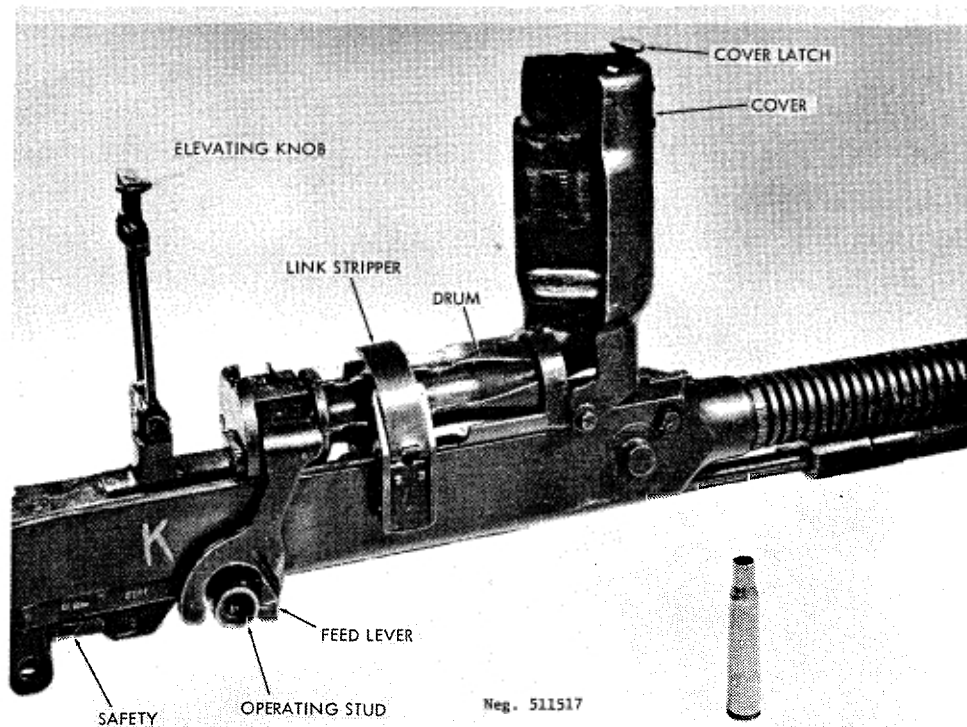

Figure 218. DShK-38 receiver details.
c. To load the DShK-38 rotary feeder, press the cover latch and open the cover (fig 218). Slip the link stripper into the first link, and place the first cartridge in the belt into the topmost compartment of the drum. Grasp the end of the belt with the right hand; with the left hand, press the belt against the drum; then sharply jerk the belt to the right and down so that the drum and cartridges will rotate as far as possible. Close the cover.
If the gun is not to be fired immediately, rotate the safety (fig 218) forward.
(1) Clear the gun, but leave the feed cover or drum open.
(2) Press out the cross pin at the rear of the receiver; drive the backplate upward until it separates from the receiver.
(3) Drive the sear mechanism to the rear and remove
(4) Grasp the knurled gas piston tube under the barrel and force it as far forward as possible; then turn it clockwise to disengage it from the barrel.
(5) Pull the operating stud (fig 218) to the rear and move the gas piston, bolt, slide, gas piston tube, etc. Lift the bolt off the slide and remove the firing pin and the locking flaps.
(6) On the Model 38/46 only, unscrew the nut at the top front of the receiver and remove the barrel lock to the side. Pull the barrel forward, out of the receiver.
(7) No further disassembly is necessary or desirable.